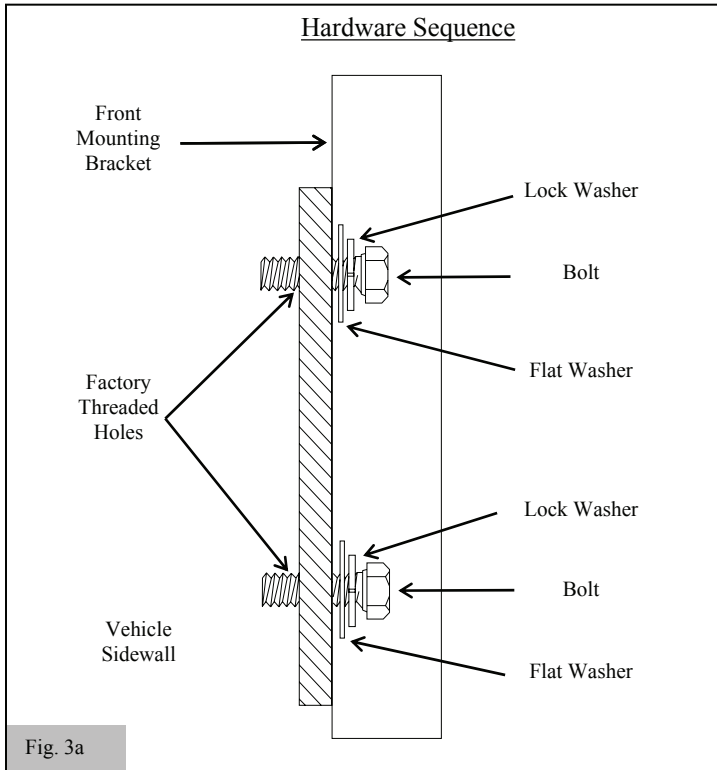

Fig. 3a
- (c) Install and snug the bolts, lock washers, and flat washers to the factory threaded holes (loose enough so the bracket can still slide). (Figure 3a).
- (b) Install and snug the bolts, lock washers, and flat washers to the factory threaded holes (loose enough so the bracket can still slide). (Figure 3a).